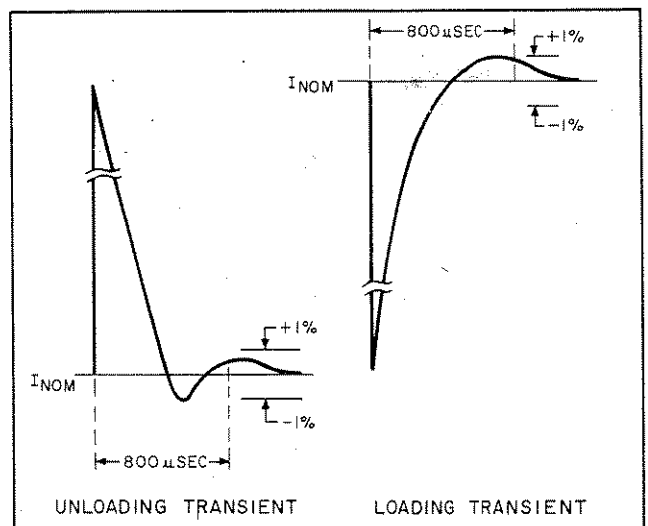

Figure 5-6. Load Transient Recovery Time, Waveforms
- f. Adjust 25K potentiometer until a stable display is obtained on oscilloscope. Waveform should be within the tolerances shown in Figure 5-6. Output should return to within $\pm 10\text{mV}$ (Model 6177C) or $\pm 25\text{mV}$ (Model 6181C) of nominal value in less than 800 microseconds.